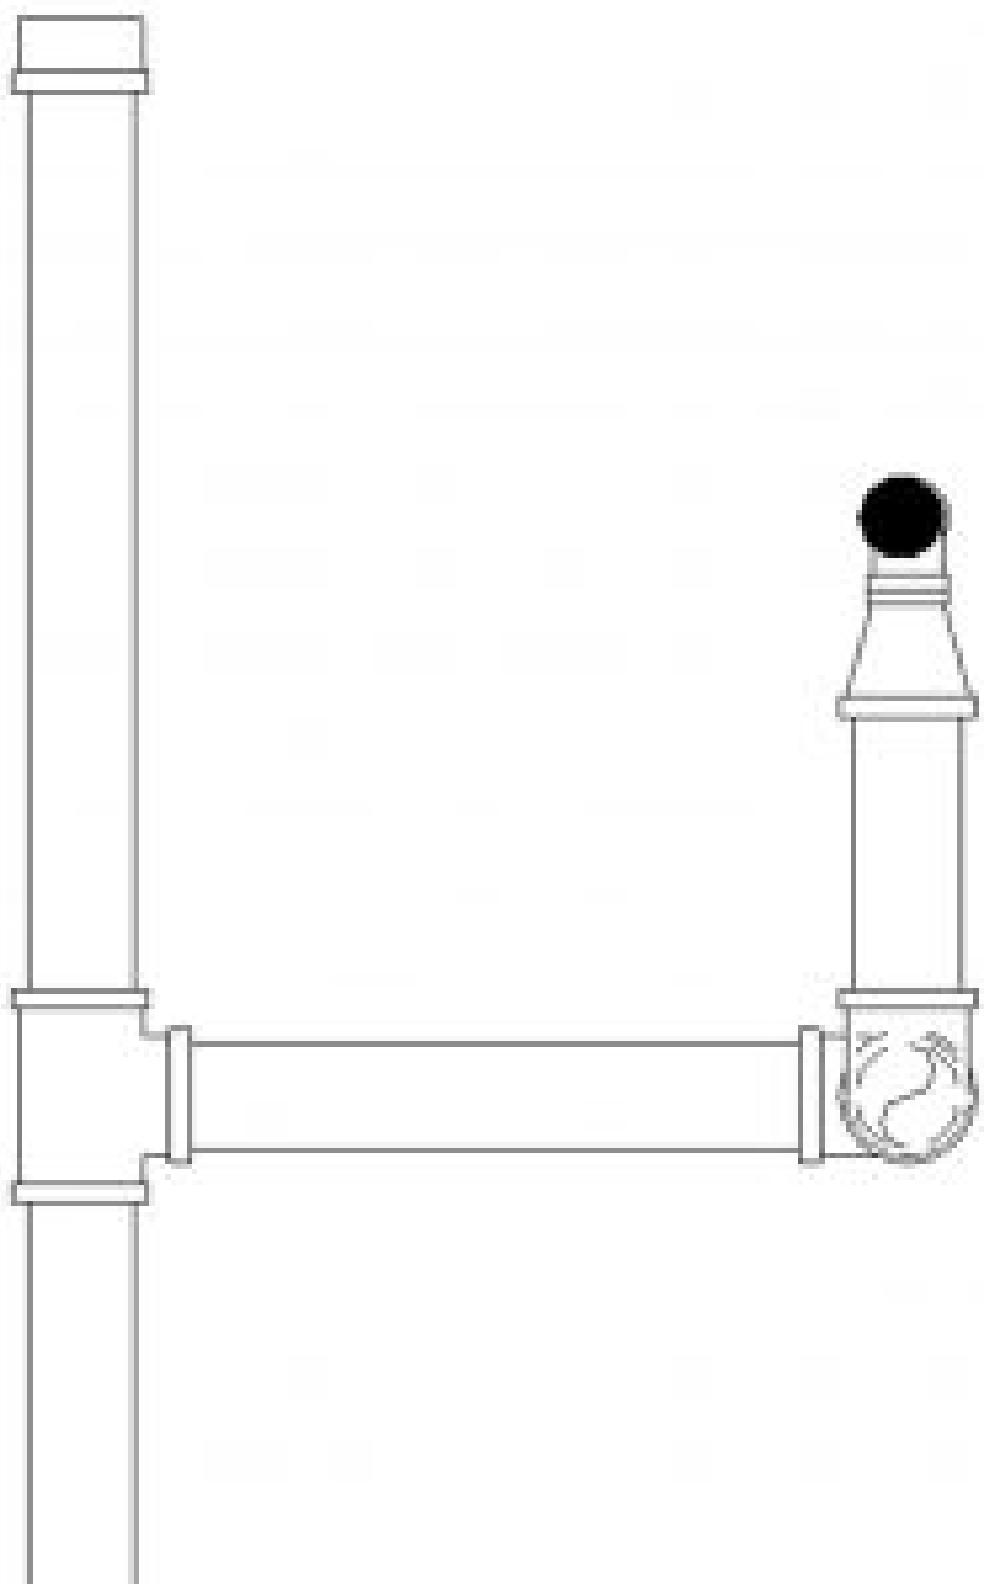

Figure 15.9 Cap placed on the end of the branch pipe shown in plan view (with the hidden line style selected)
4. Hover the cursor over the end of the pipe that runs past the sprinkler. When the endpoint highlights click once to place the cap as shown in Figure 15.9